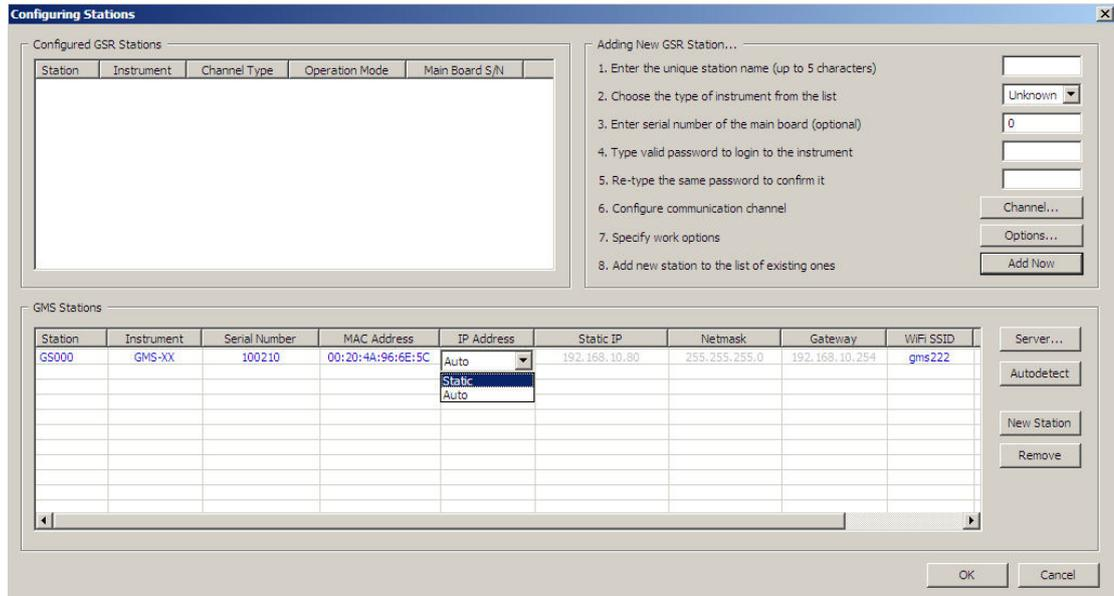

Figure 28. Station configuration
- Open GeoDAS and go to **Settings** → **Configure Stations...** , the window shown in Figure 28 appears.